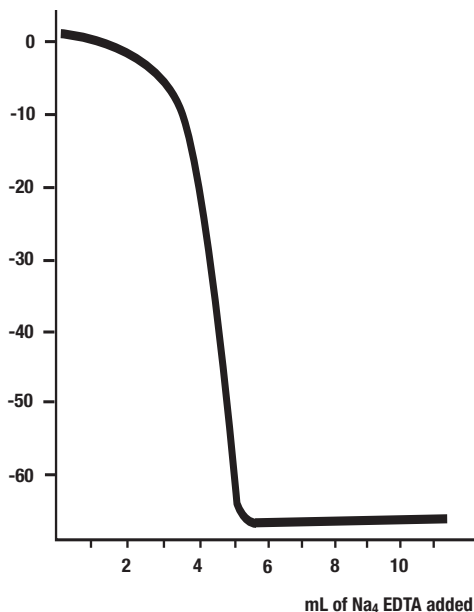

Figure 5
4. Using a 10 mL burette, add increments of EDTA and plot electrode potential against mL of EDTA added. The end point is the point of greatest slope (inflection point). See **Figure 5**.